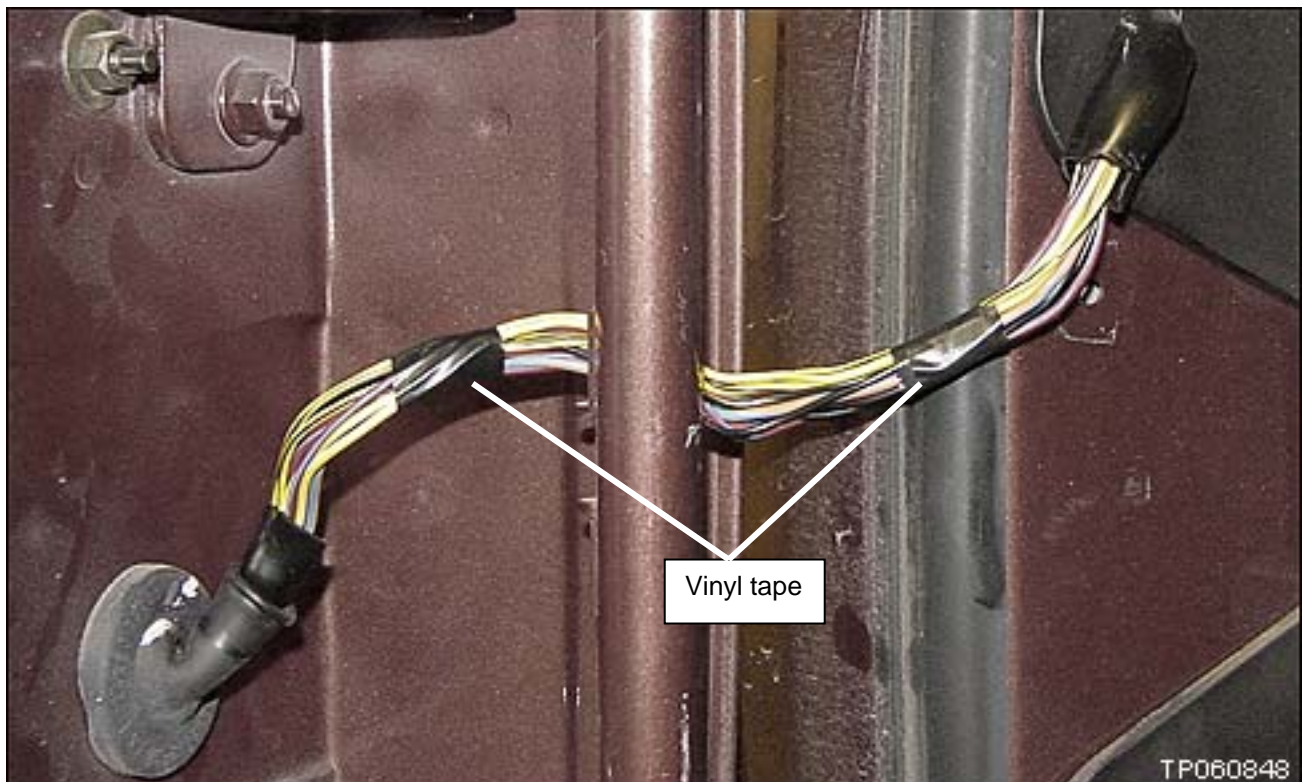

Figure B4
- Once the vinyl tube is cut off, put vinyl tape on the harness in two spots as shown in Figure B4.